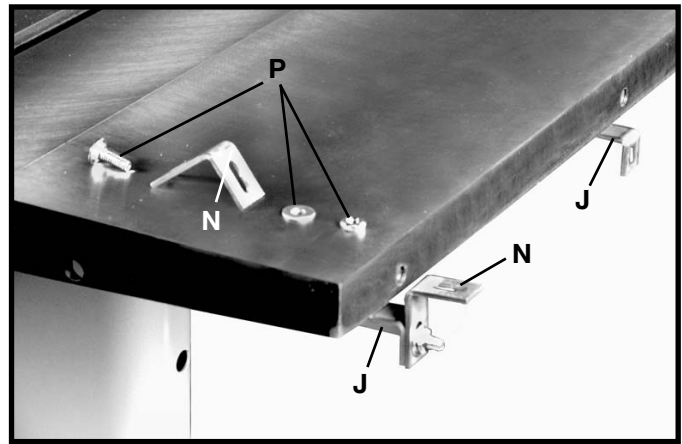

Fig. 66
10. Assemble angle brackets (N) Fig. 66, onto three Z-brackets (J), two of which are shown, using three 1/4"-20 x 3/4" carriage bolts, flat washers and hex nuts (P).
NOTE: The longer leg of angle brackets (N) Fig. 66, must be secured to Z-brackets (J).